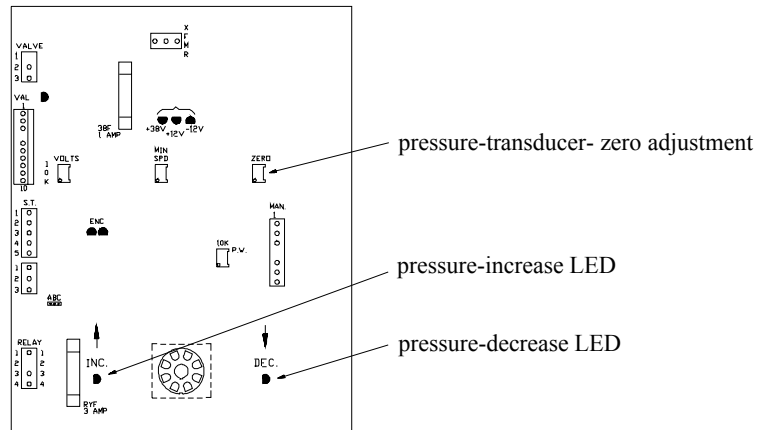

Figure 8-2. Pressure-Transducer-Zero Adjustment
5. Turn the pressure-transducer-zero adjustment (Figure 8-2) counterclockwise until the pressure-increase LED comes on.